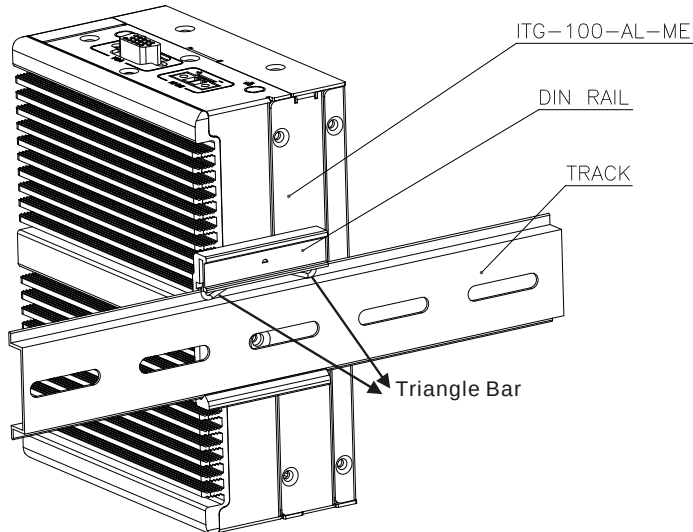

Figure 3-19: Mounting the Track to the DIN Rail
- Step 2:** Place the track against the back of the DIN rail mounting bracket making sure the edges of the track are between the clamps of the DIN rail mounting bracket (Figure 3-19).
To mount the ITG-100-AL embedded system onto a DIN rail, please pay special attention to the direction of DIN rail mounting kit. See Figure 3-19